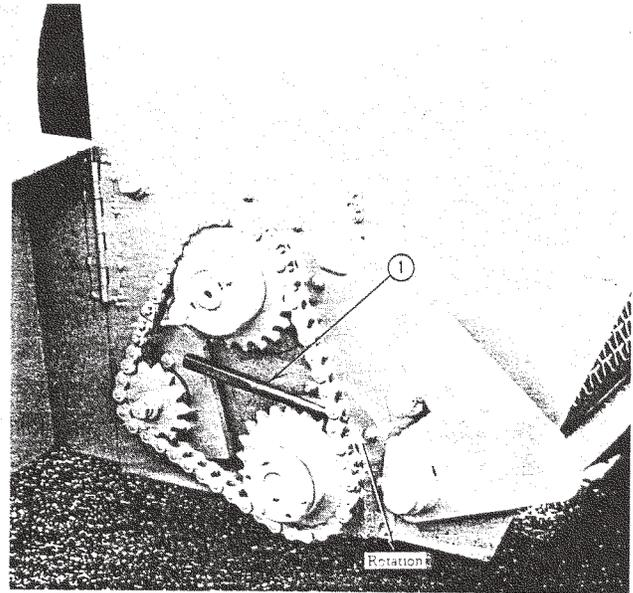

Figure 20
B. Hold (lock) hopper spread roll by placing a drift punch through the drive chain and into the drive sprocket. (Figure 20).